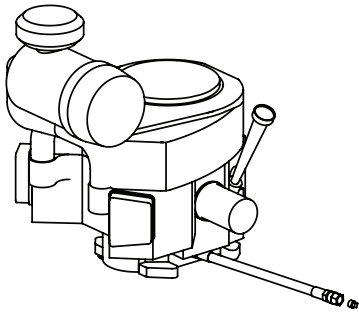

Figure 10
2. Locate the oil drain hose on the engine (Figure 10).
4. While holding the free end of the oil drain hose over the oil collection container, unscrew the square-head hose plug from the end of the hose (Figure 10). Drain the engine oil into the collection container.